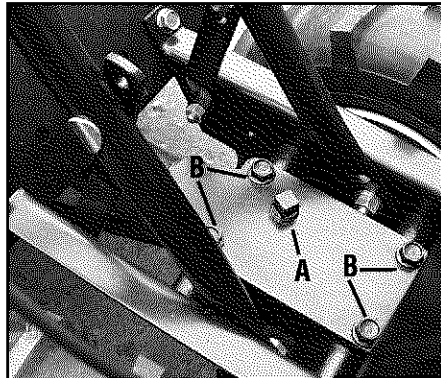

Figure 5-2: Remove oil fill plug (A) to check gear oil level and to add gear oil. Remove four cover screws (B) to drain gear oil.
3. Remove the oil fill plug (A, Fig. 5-2) from the transmission housing and look into the oil fill hole. You will see the main drive shaft on one side of the hole.
3. Remove the four screws (B, Figure 5-2) and washers from the transmission cover and remove the cover and gasket.